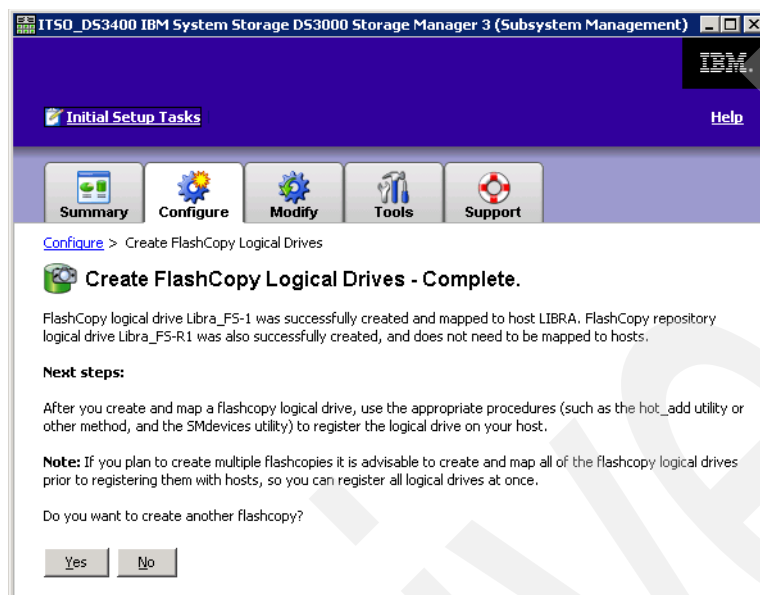

Figure 9-66 FlashCopy - Complete
4. Click **Finish** to save the configuration. You will be prompted to create another FlashCopy Logical drive (Figure 9-66). If you plan to create multiple FlashCopies, we advise you to create and map all of the FlashCopy logical drives before registering them with hosts, so you can register all logical drives together.